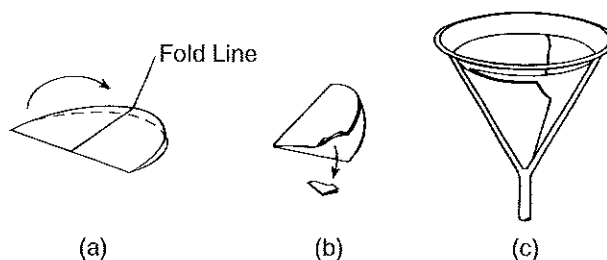

Figure 3.
14. Fold the filter paper into a cone. First fold the filter paper in half and crease. Next, fold the filter paper almost in half again, leaving about a 5° angle between the folded edges (see Figure 3).